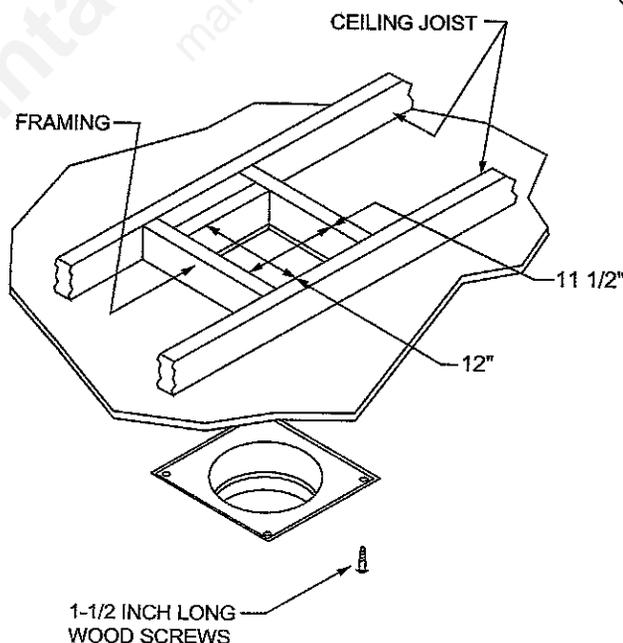
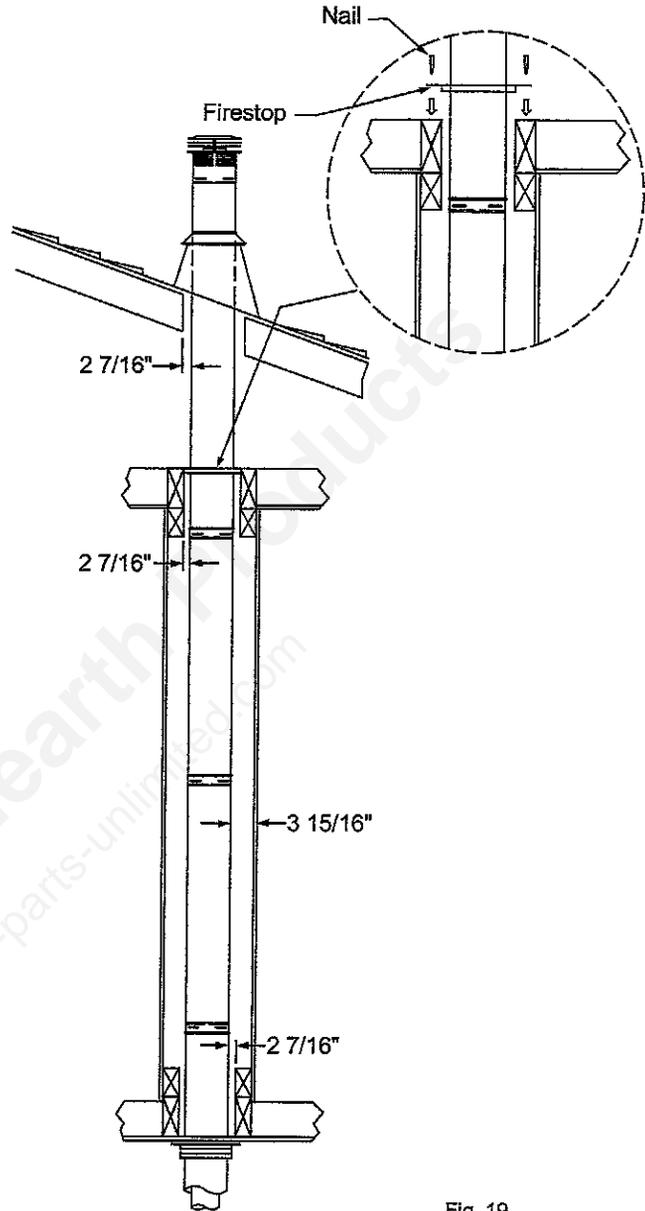

Fig. 16
Fig. 19
To install the round support box/wall thimble in a flat ceiling, cut a 11 1/2" x 12" hole in the ceiling, centered on the hole drilled in Step 1. Frame the hole as shown in Figure 16.
(1) For multistory vertical installations, a Ceiling Firestop is required at the second floor, and any subsequent floors. (Fig. 19) The opening should be framed to 11-1/2-inch x 12-inch inside dimensions, in the same manner as shown in Figure 16, page 11.
(2) Any occupied areas above the first floor, including closets and storage spaces, which the vertical vent passes through, must be enclosed. The enclosure may be framed and sheetrocked with standard construction materials, see page 8 for minimum allowable clearance between the outside of the vent pipe, and the combustible surfaces of the enclosure. Do not fill any of the required air spaces with insulation.